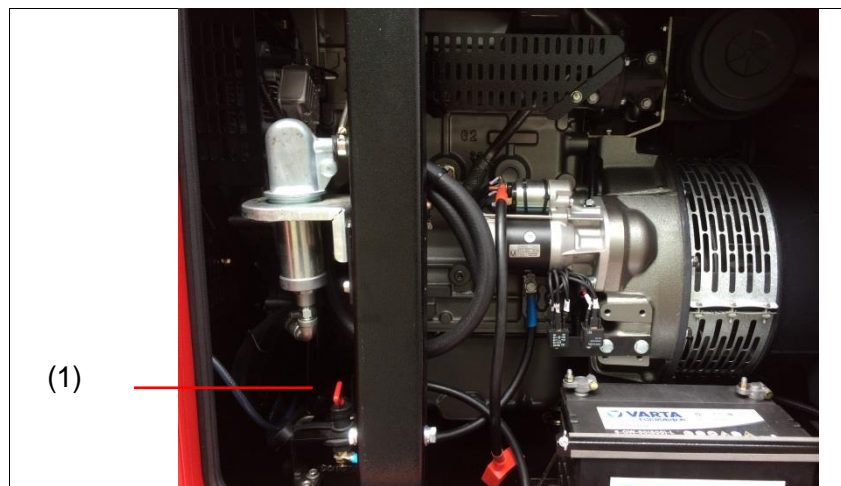

Figure 11-1: Replacing the battery
1. Switch off the main battery switch (*Figure 11-1: Replacing the battery*)